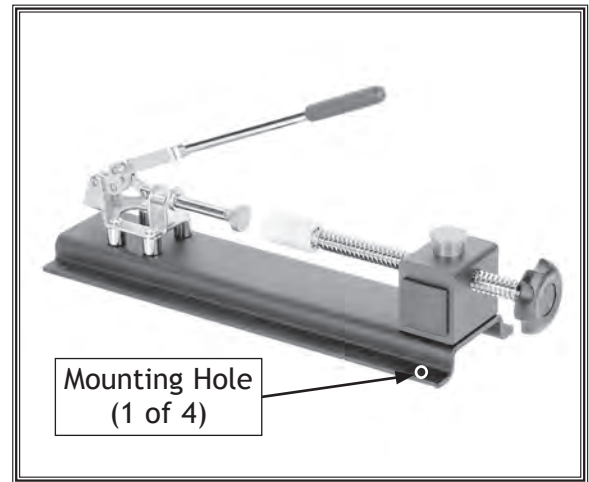

Figure 3. Hole locations on pen press base.
1. Place pen press in location to be mounted and mark hole locations (see **Figure 3**).